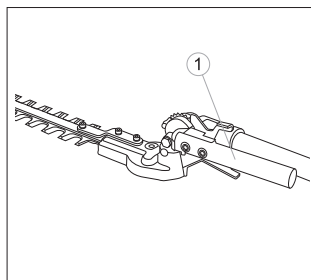

fig. 26
3. While holding the latch, rotate the cutting unit with the adjustment lever until it straightens. (rotation 180°) (fig. 26).